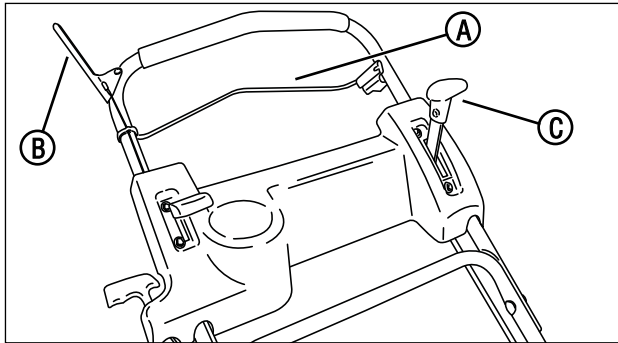

Figure 1: Mower controls
2. Check the blade control **(A, Figure 1)**, wheel drive control **(B)**, and ground speed control **(C)** to insure they work freely.